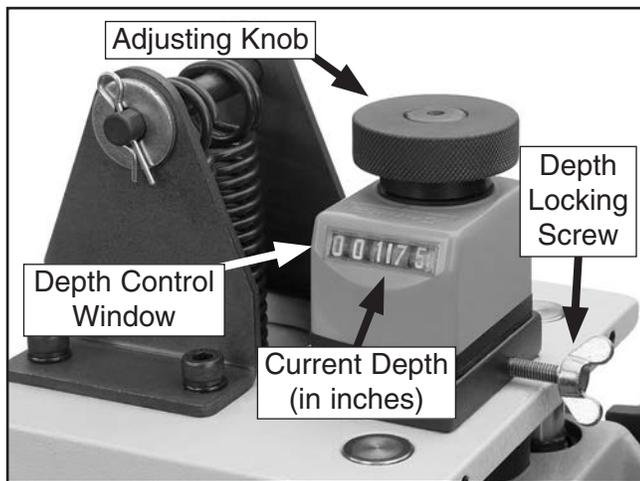

Figure 21. Boring bit depth control.
The drilling depth is precisely adjusted by using the depth control on top of the headstock column (see **Figure 21**). The depth control window shows the drilling depth in inches, with the last two digits as decimals.
1. Loosen the depth locking screw shown in **Figure 21**.